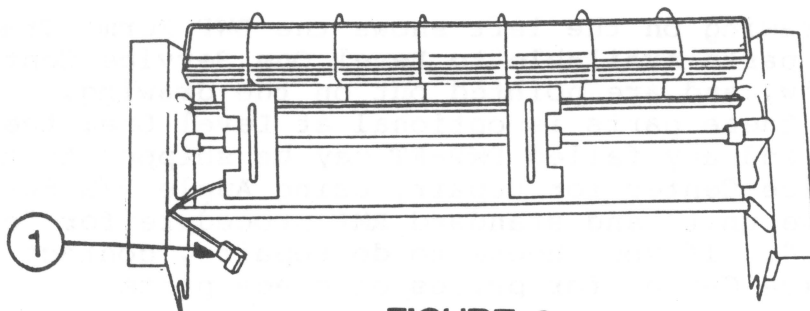

FIGURE 2
1. Carefully unplug the connector at the left of the Forms Tractor (Figure 2, #1) from the printer, and then lift the Forms Tractor from the DWP.